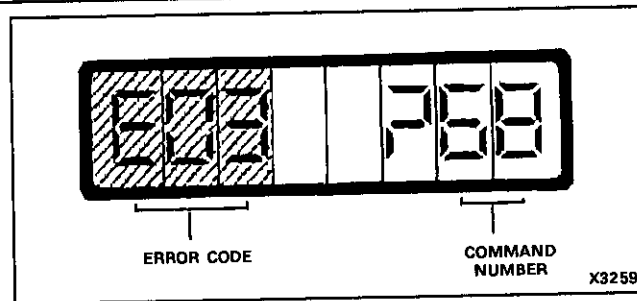

Figure 3-1 Error Code
3.03 During programming, the SX-20 system checks all data entered into the system. If an error is detected, an error code is shown in positions one, two and three of the display and the current command number in positions six, seven and eight (refer to Figure 3-1). The meaning of each error code is detailed in Table 3-1, Error Codes. The command number indicates the type of programming being performed at the same time the error occurred.